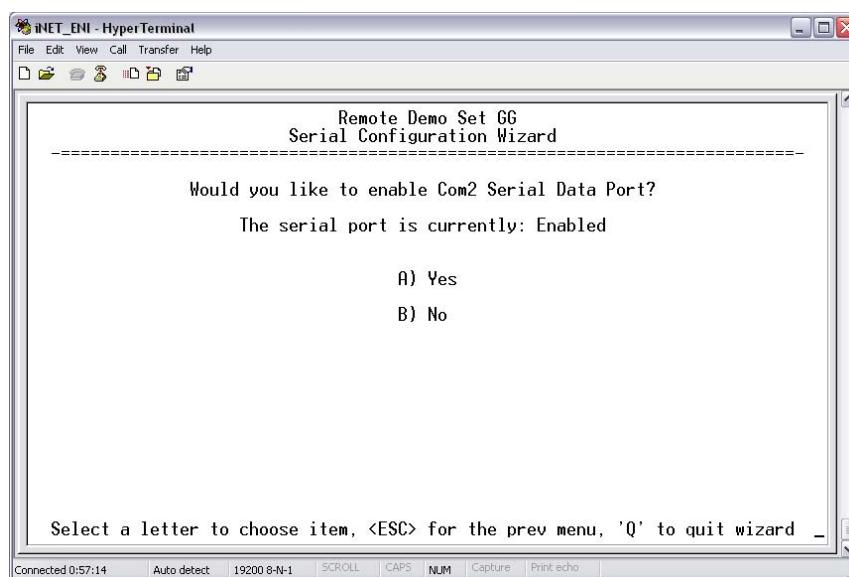

Figure A-8. Enable COM2 Data Port
7. Press **A** to enable the iNET/ENI's COM2 port. See Figure A-8.